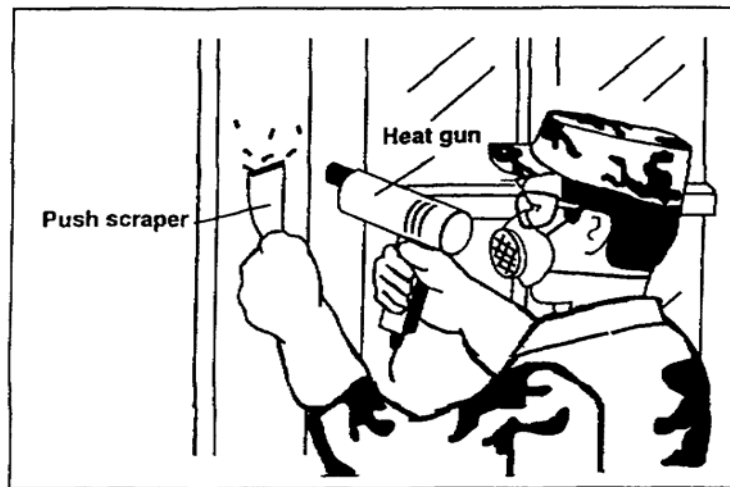

Figure 3-11. Heat gun
(2) A blowtorch can be dangerous if it is not used correctly. The following safety rules apply to the use of a blowtorch:
j. Heat Guns and Plates. Heat guns (Figure 3-11) work best on even surfaces, such as trim and molding. Heat plates make fast work of flat surfaces, such as siding. While